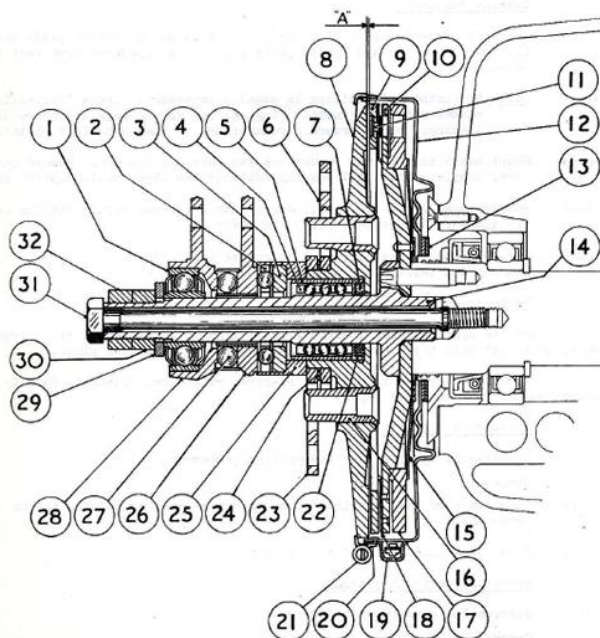

FIG. G21. SERVO MOTOR.
2. Adjust nut (item 30 Fig G21 on previous page) until friction can be felt, between pressure plate and lining. While rocking Servo, slacken back 1/3 turn, giving clearance of approximately .018 "A" Fig. G21. Apply pedal once to ensure outer cam lever has followed back.
3. Hold setting and lock (32). Check pedal travel to open cam levers, .1/4" to 1/2".